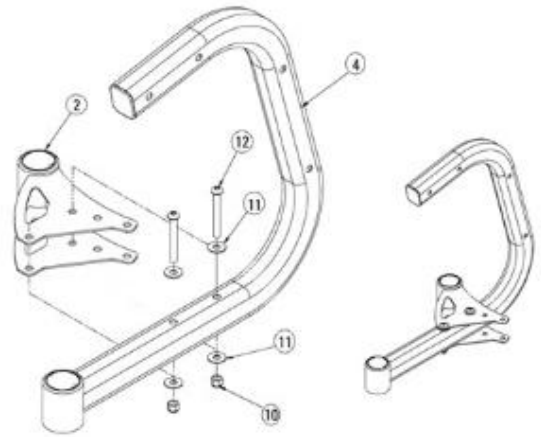

Fig. 1
Attach the rear left stabilizer (2) to the stand leg (4) using the hardware shown in figure 1.